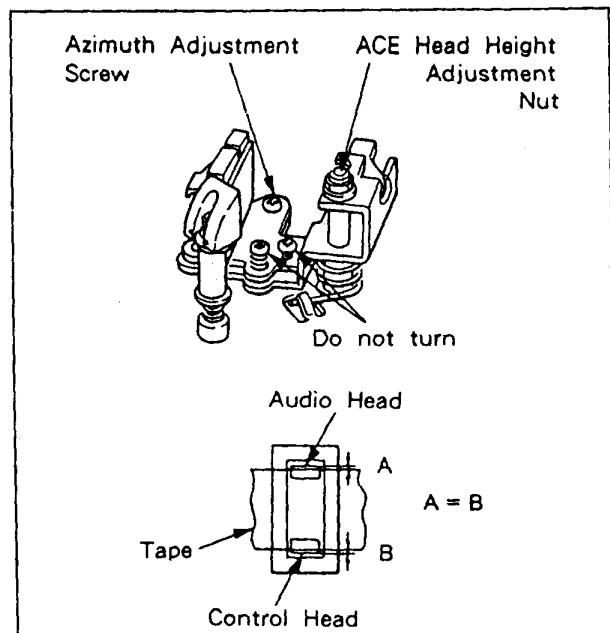

Fig. 6-4-3. (3) Pre-set for Compl Head Bracket
(1) Guide Rollers (See Fig. 6-4-3.)
(2) COMPL Head Bracket (ACE Head) (See Fig. 6-4-3.)